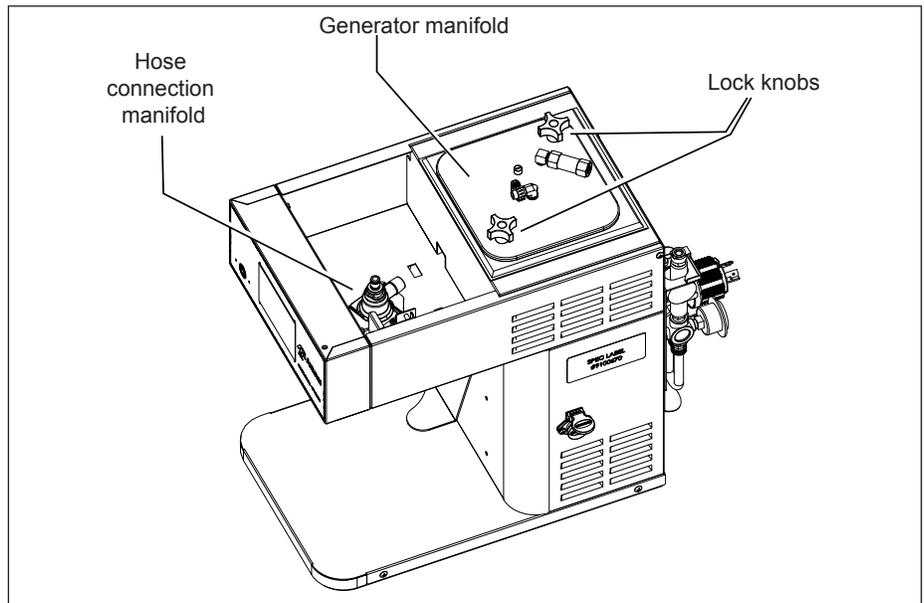

Figure 6. Components - top view (shown without top cover for clarity)
3. Loosen both Lock Knobs (see Figure 6). This allows the Generator Manifold to be opened.